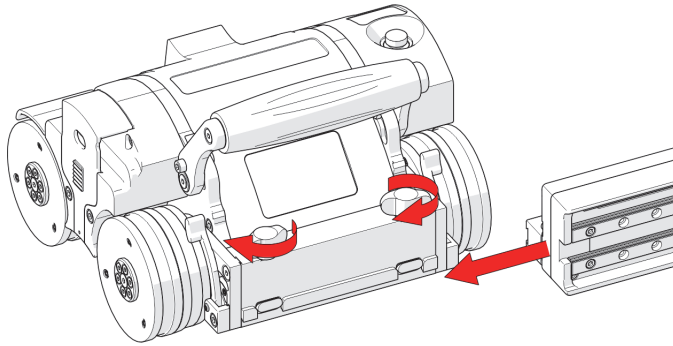

Figure 2-25 Slide onto one swivel mount
1. Loosen the two black wing knobs, and then slide the raster arm’s mounting rail onto the dovetail jaws of the crawler (see Figure 2-25 on page 66).